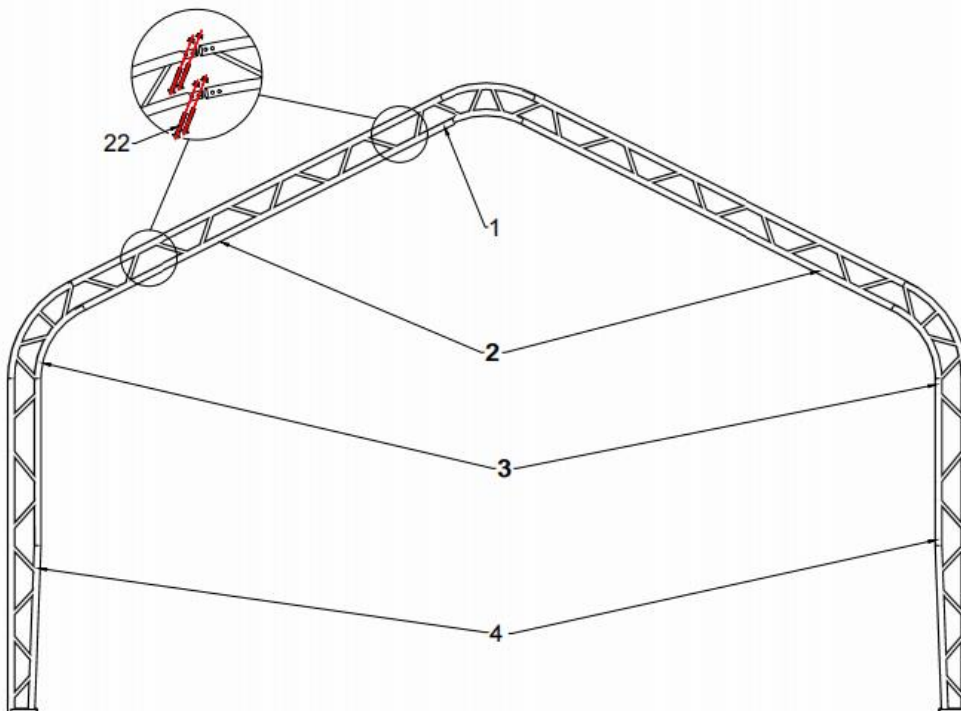
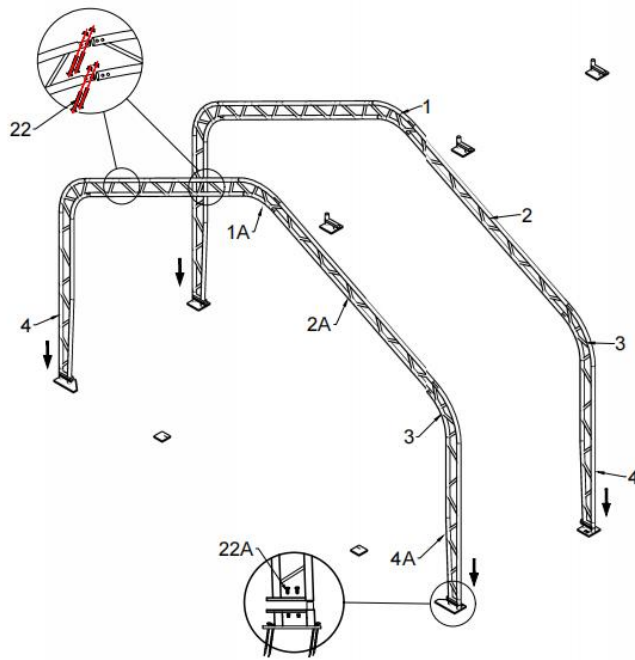

Figure 4
Figure 5
- Figure 4 shows to connect the roof bent tube (No.1), sidewall bent tube (No.2), shoulder bent tube (No.3) and standing leg (No.4) with carriage bolt 8x80 (No.22), then put the arch into tube of the base flange by hoist, and assemble every group arch by turns (see Figure 5)